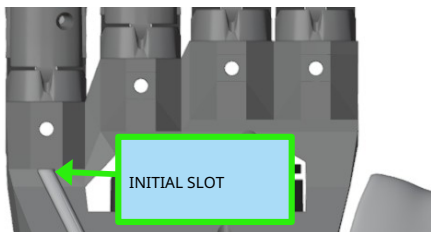

Figure 5.39 Tube insertion into the initial slot (rear view)
1. Insert one end of the PTFE tube into the initial slot (on the back of the skeleton) of the extension tendon (figure 5.39).